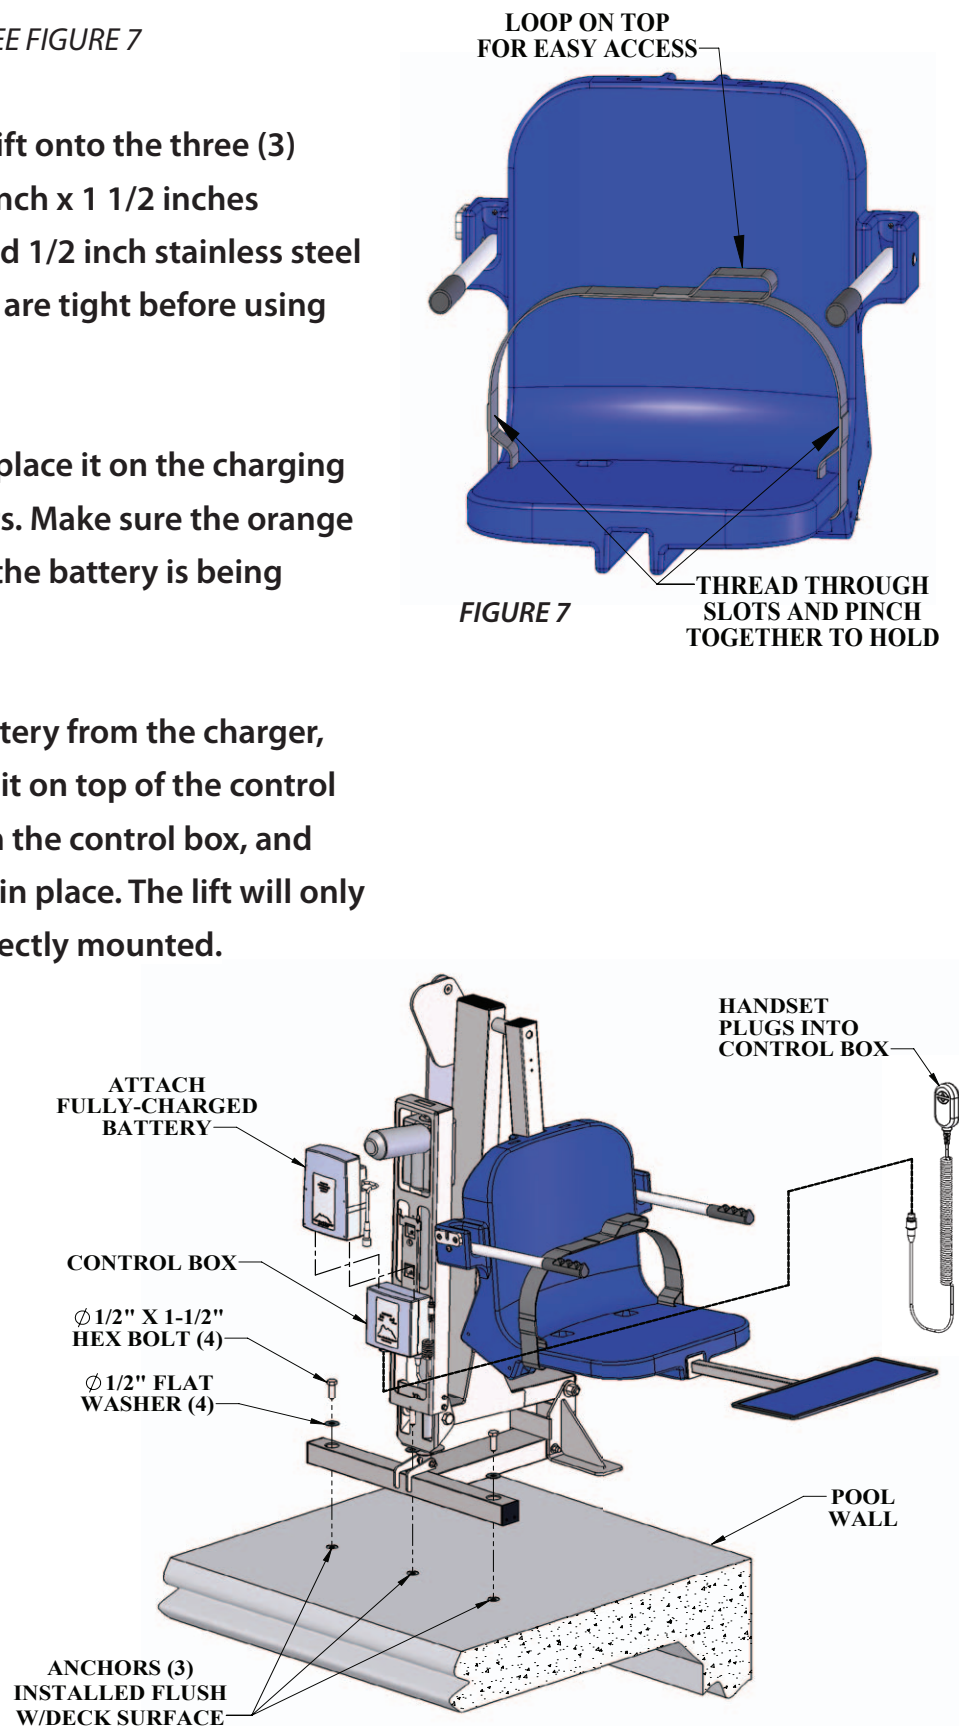

FIGURE 8
2. Install the Ambassador pool lift onto the three (3) anchors using the supplied 1/2 inch x 1 1/2 inches stainless steel hex-head bolts and 1/2 inch stainless steel flat washers. Make sure all bolts are tight before using the lift. *SEE FIGURE 8*